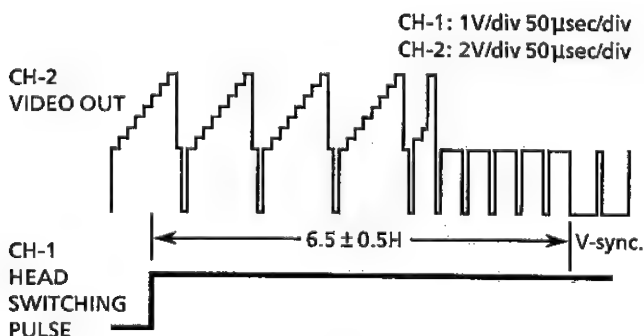

Figure 2-2.
5. Adjust R701 so that the leading edge of the head switching pulse is 6.5H (lines) ahead of the vertical sync. as shown in Figure 2-2.